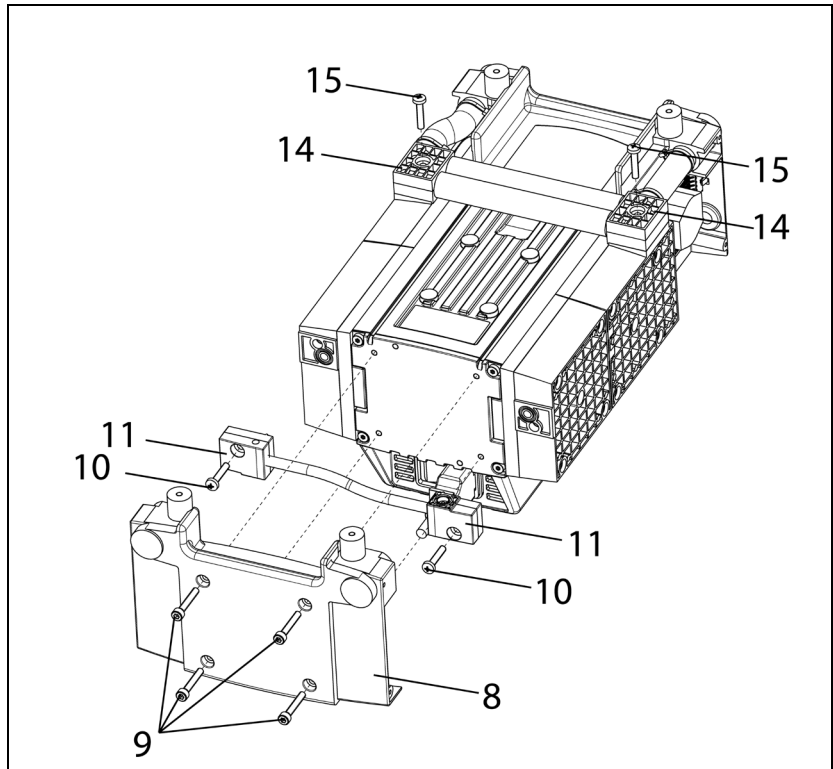

Fig. 13: Disassembling the head connections
2. Undo the connection cover's (8) attachment screws (Fig. 13/9) and remove the connection cover.
3. Remove the head connection's (11) screws (10) and remove the head connection.
2. Mount the connection (14) on the connection hose and tighten the head connections' attachment screws (Fig. 13/15) hand-tight.
4. Mount the connection (11) on the connection hose and tighten the head connections' attachment screws (Fig. 13/10) hand-tight.
5. Reinstall the head connection cover (8):